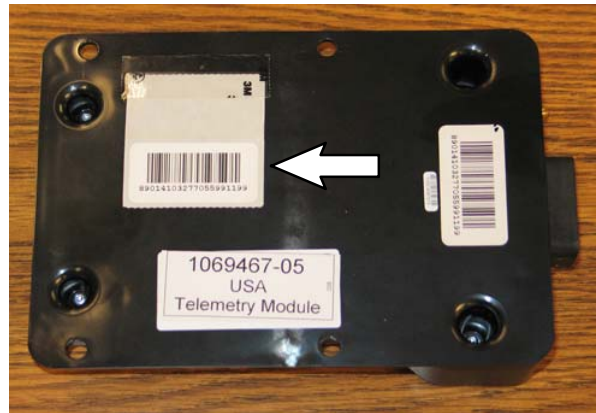

FIG. 2
2. Remove the telemetry module from the machine. Set the hardware and telemetry module aside. Refer to applicable installation Instruction Bulletins (IB) and Parts Manuals for telemetry module locations.
**NOTE:** Do not discard the removed telemetry module until after the new telemetry module (1) is installed on the machine and fully operational.
3. Remove the additional SIM label from the back of the control box (1) and set label aside in a safe place. The number on the SIM label will be needed for activating the machine. (Fig. 2)